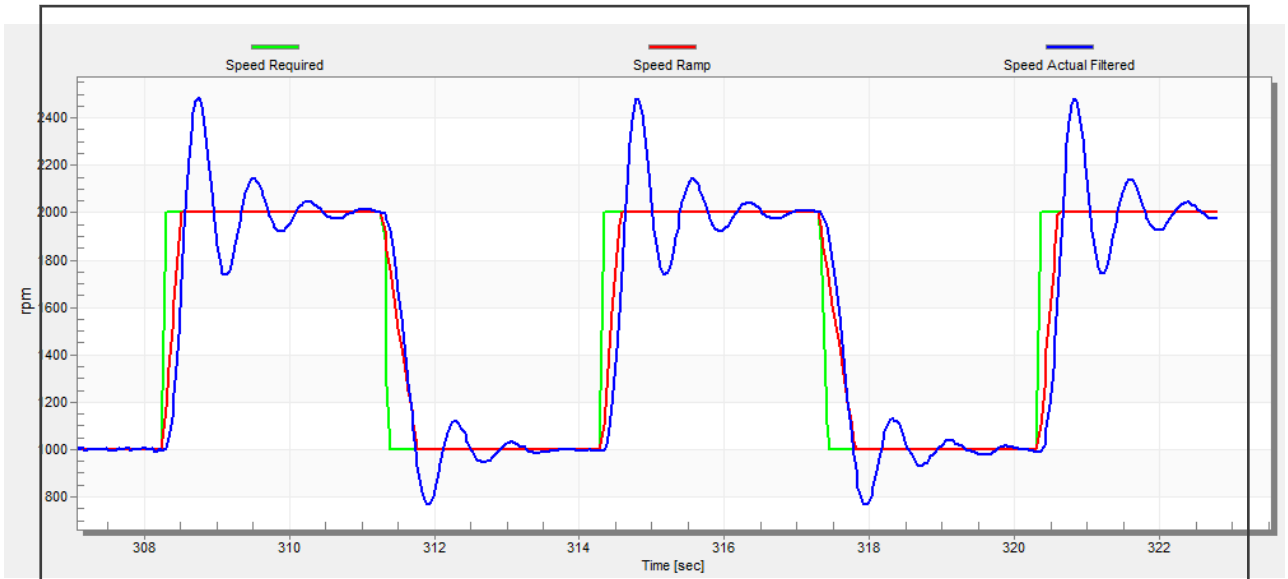

Figure 33. Speed Controller Response—SL_Kp value is low, Speed Actual Filtered greatly overshoots
- b. The “SL_Kp” value is low, the “Speed Actual Filtered” greatly overshoots, and the long settling time is unwanted (see Figure 33).